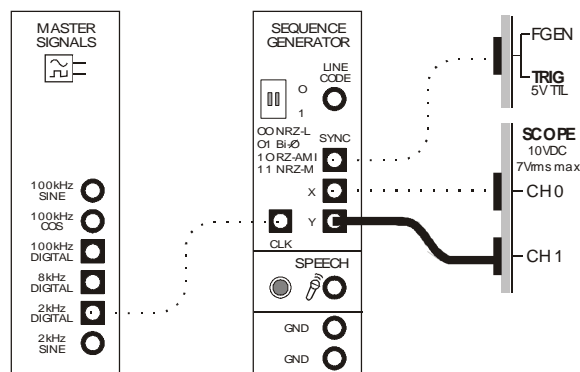

Figure 7
19. Modify the set-up as shown in Figure 7 below.